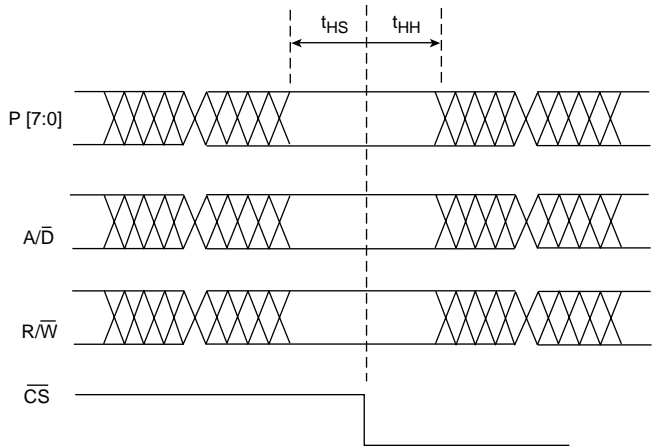

Fig. 14a HOSTIF Parallel Port Input Setup & Hold Times
B) Signals are "strobed" into/out of the parallel port on the falling edge of the \overline{CS} signal. Setup and hold times, as defined in the AC timing tables, are relative to this edge and must be met (see Figure 14a)